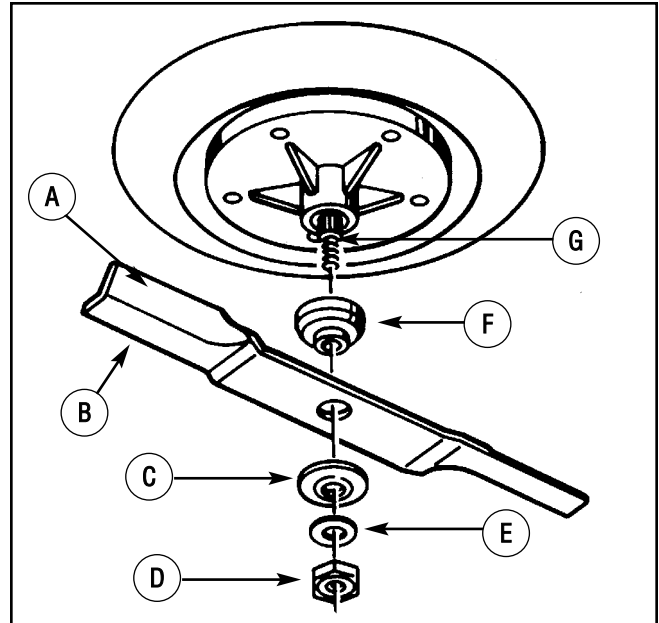

Figure 19: Removing the blades
3. Remove the **nut** that holds the blade (Figure 19).
6. Mount the **blade** and **blade adapter** on the mandrel (Figure 19).